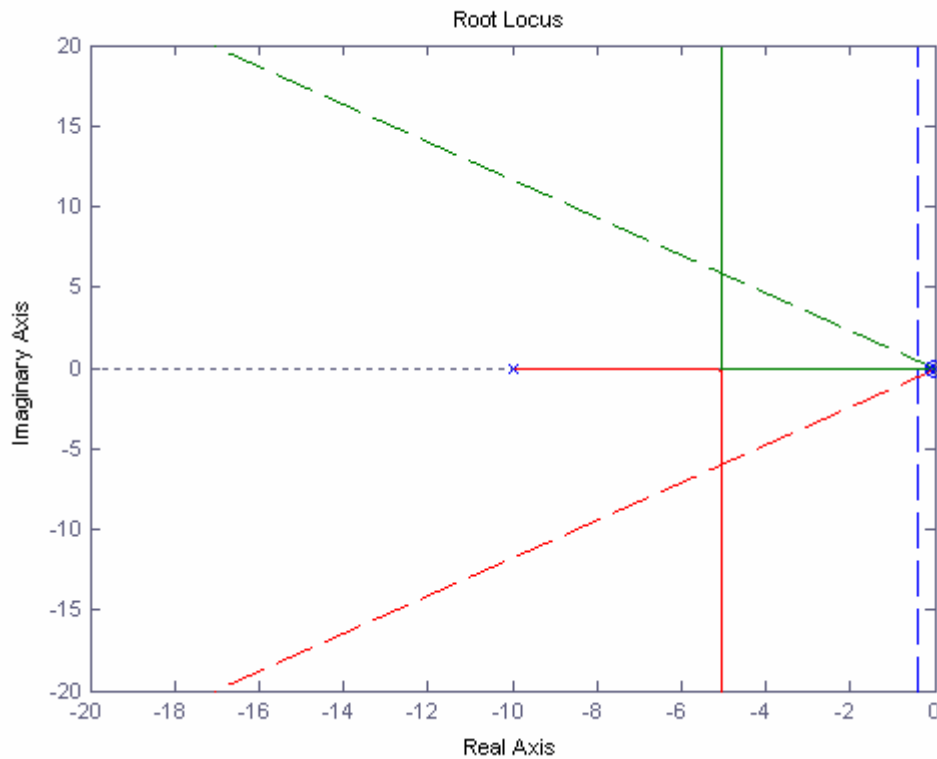

Figure P10.5
**P10.5** A stabilized precision rate table uses a precision tachometer and a dc direct-drive torque motor, as shown in Figure P10.5 in the textbook. It is desired to maintain a high steady-state accuracy for the speed control. To obtain a zero steady-state error for a step command design, select a proportional plus integral compensator as discussed in section 10.6. Select the appropriate gain constants so that the system has an overshoot of approximately 10% and a settling time (2% criterion) in the range of 0.4 to 0.6 second.
The root locus is shown in Figure P10.5. The design specifications are met, but not without difficulty. The settling time specification is most difficult since we cannot place dominant poles with  $\zeta\omega_n > 10$  (see the root locus, Figure P10.5).